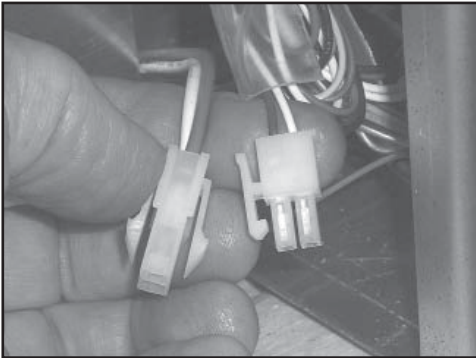

Figure 14: Disconnecting Standing Pilot Switch.
b) Disconnect the connection to the Standing Pilot Switch as shown in Figure 14.